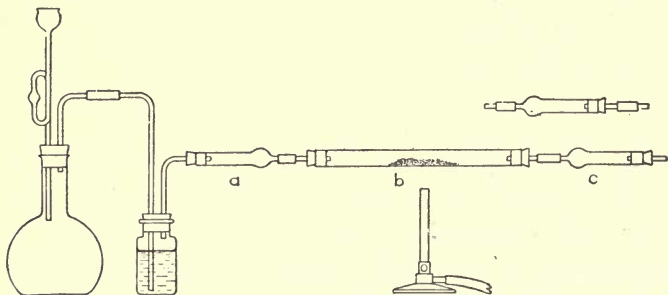

FIG. 4.
14. Arrange an apparatus consisting of a hydrogen generator, wash bottle, calcium chloride tube (*a*), hard glass tube (*b*) and a second calcium chloride tube (*c*), as shown in Fig. 4. Both of the calcium chloride tubes